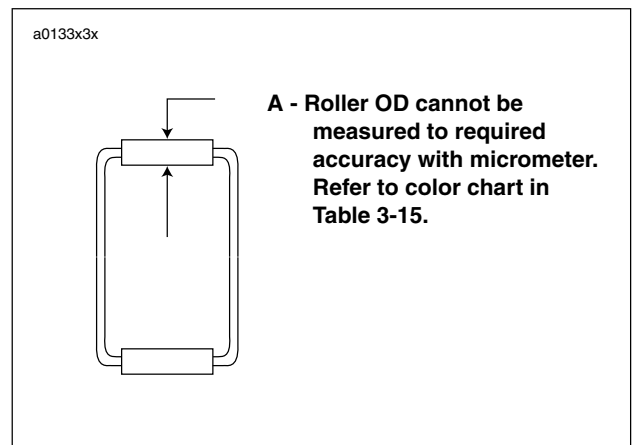

Figure 3-145. Bearing Identification
4. See Figure 3-145. Pinion bearings are identified as shown.